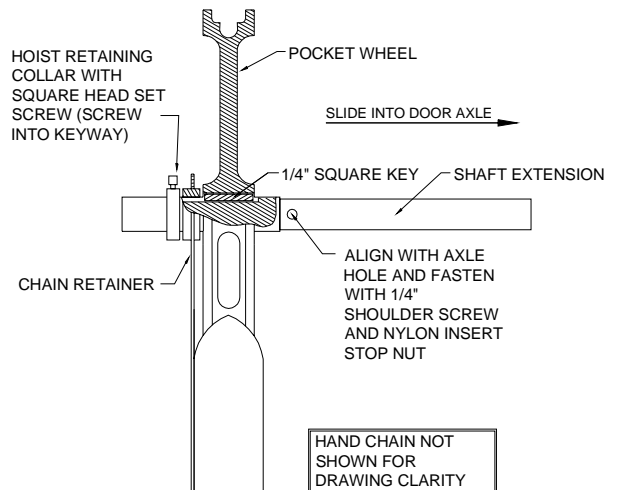

Figure 16.
11.2 **Direct drive operator** -- direct drive chain hoists can be installed on either side of the door, prior to, or after the door is hung (although there may be clearance limitations). Please reference Figure 16 for specifics.